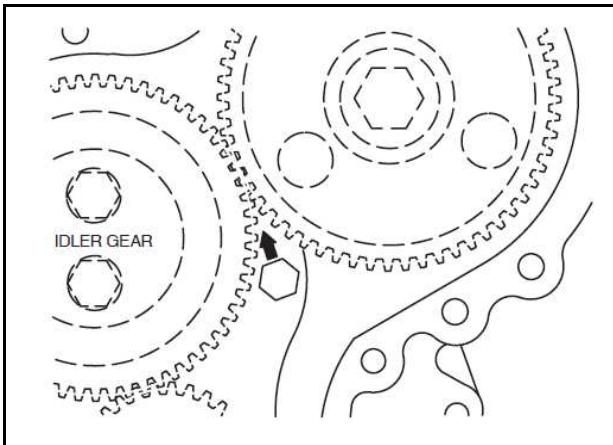

Fig.12-Installing Oil Nozzle
5. When re-installing oil nozzle, oil hole must be positioned at 45° angle, pointing towards idler gear, Fig.12.